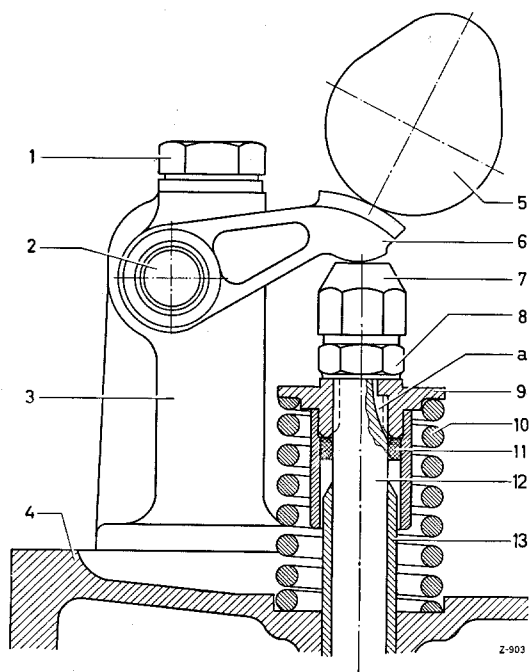

Figure 00-3/4
3. Set the cam of the respective valve in such a way that the base circle of the cam is facing the sliding surface of the rocker arm (see fig. 00-3/4).